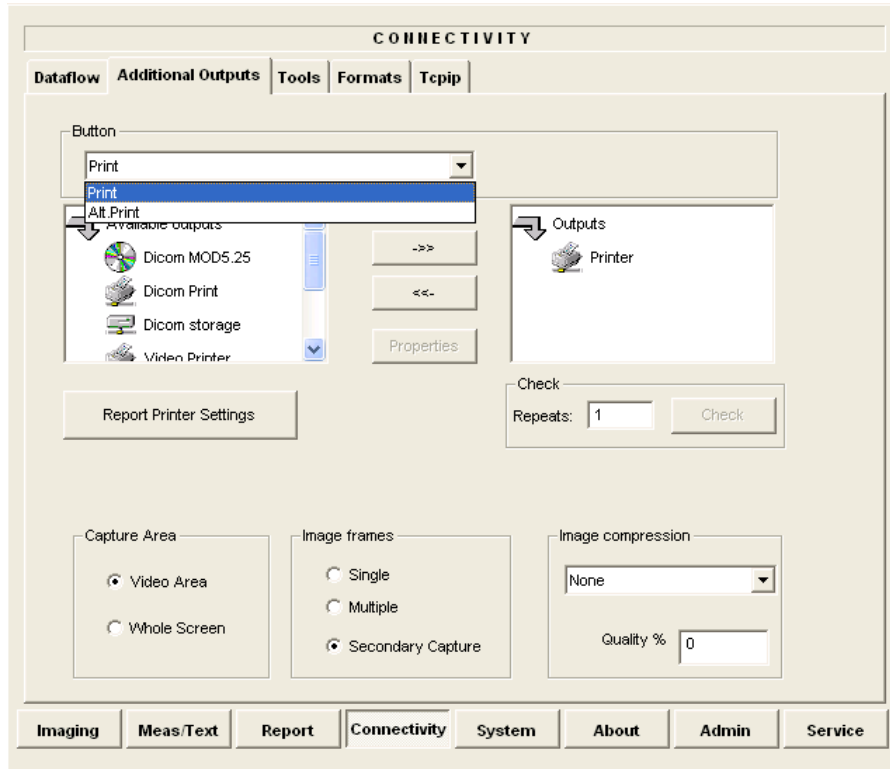

Figure 3-13 Configuring Control Panel Hot Keys for Printing
- 4.) From the Button drop-down menu (see Figure 3-13), select to configure either the **Print** button or **Alt+Print** to activate a variety of outputs.